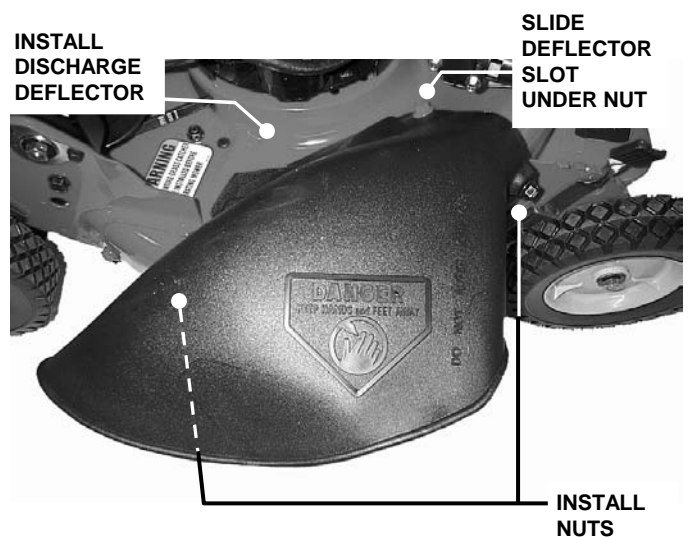

FIGURE 2.13
- C. Install discharge deflector and secure to deck using hardware just removed in Step A. Slot in front edge of discharge deflector must be under nut as shown and both bolts protruding through holes in the side of the deflector. Secure nuts to the side of deflector. Tighten nuts securely. See Figure 2.13.